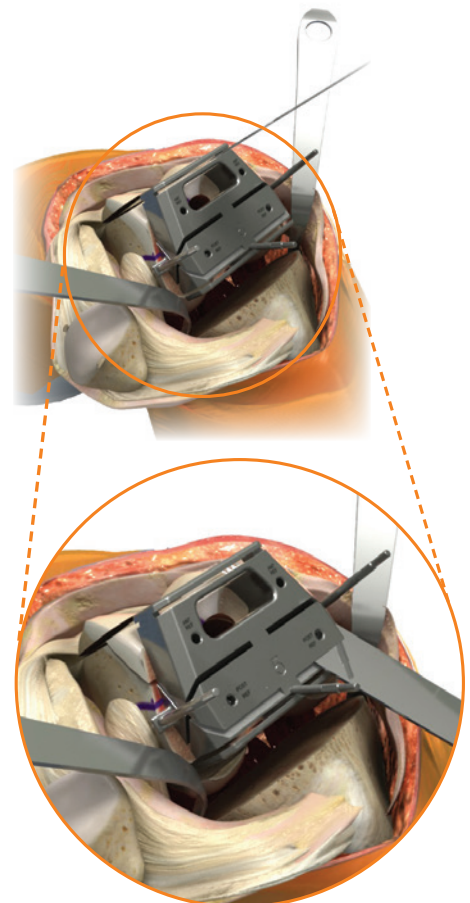

Figure 17a
2. Prior to bone resection, insert the resection check (angel wing) into the anterior blade slot of the A/P resection block to check the plane of the resection and to avoid any chance for notching (Figure 17a).